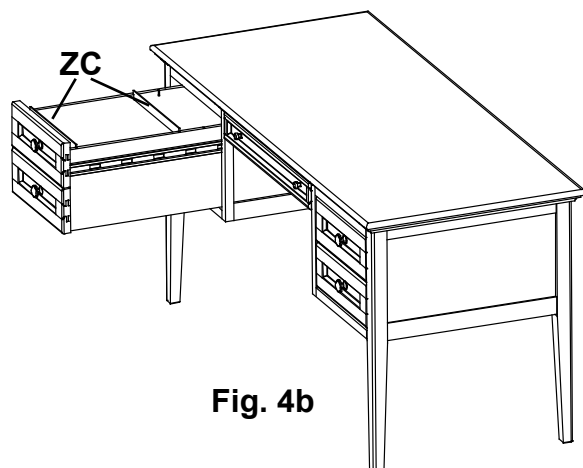

**Fig. 4**
4. Hang your letter-sized hanging folders either parallel or perpendicular to the front of the drawer. Legal-sized folders must hang perpendicularly. If you do not hang your files perpendicularly, store the Aluminum File Rails (ZC) to use in the future. To hang your files perpendicularly, remove the Plastic File Rails (ZB). See Figures 4 and 4a. There are slots on the sides of the drawers. Insert an Aluminum File Rail (ZC) into the slots nearest to the Drawer Face (F). Insert another Aluminum File Rail (ZC) into the second set of notches for letter-sized folders or the third set of notches to hang legal-sized folders. See Figures 4b and 4c.